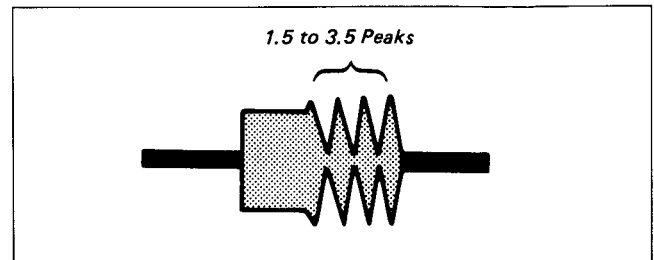

Fig. 7-74.
- 2) Check that the RF waveform on the exit side has 1.5 to 3.5 peaks. If not, readjust as follows: (See Fig. 7-74.)